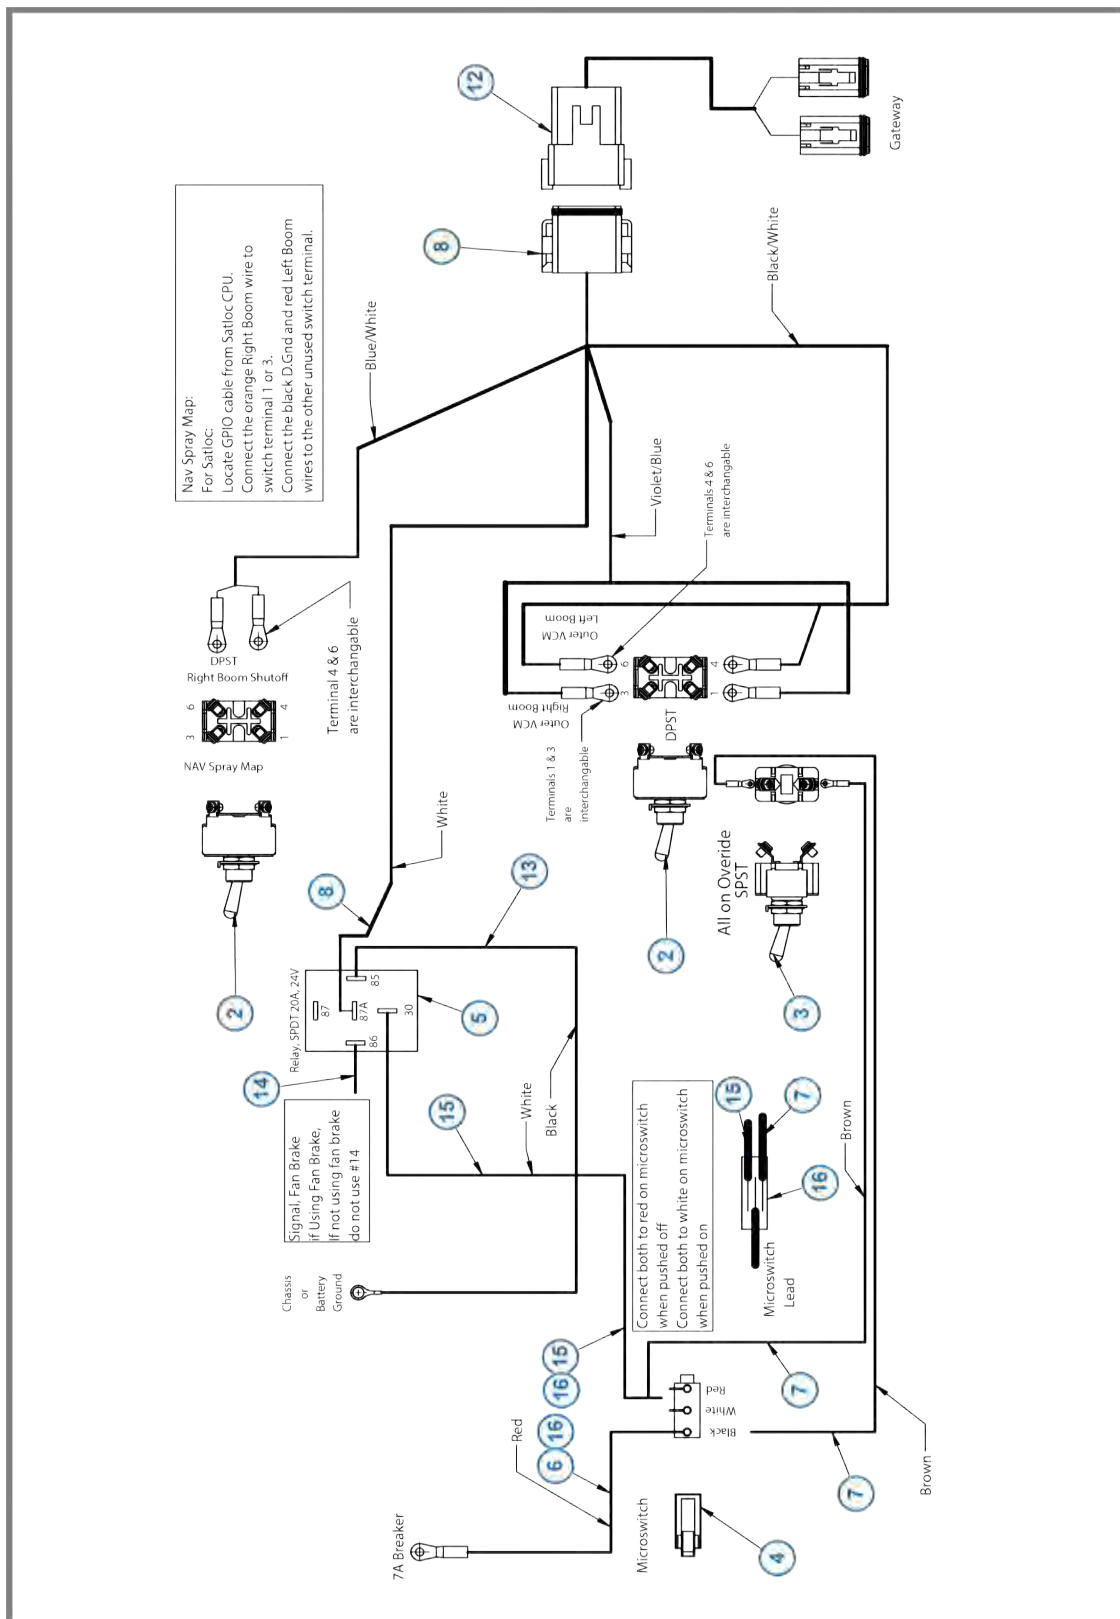

Figure 34: Boom Shutoff Kit Schematic
11. Install the shutoff kit harnesses, as shown in Figure 34, Items 7, 8, and 9.